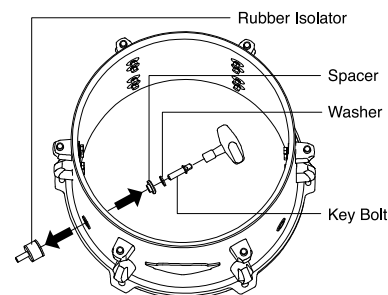

Fig. 3
3. Hold the Rubber Isolator to keep it from spinning and use a Drum Key to remove the Key Bolt, Washer, and Spacer as shown (Fig. 3).